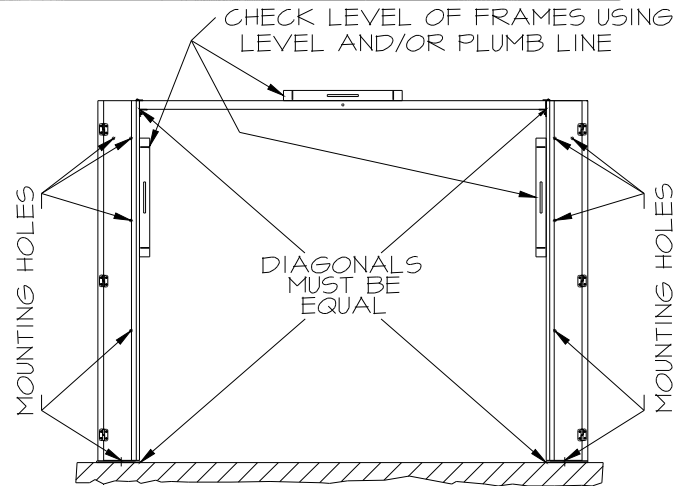

FIG. 5B
- Measure top to bottom, left to right, and diagonally from all corners (Figure 5b).